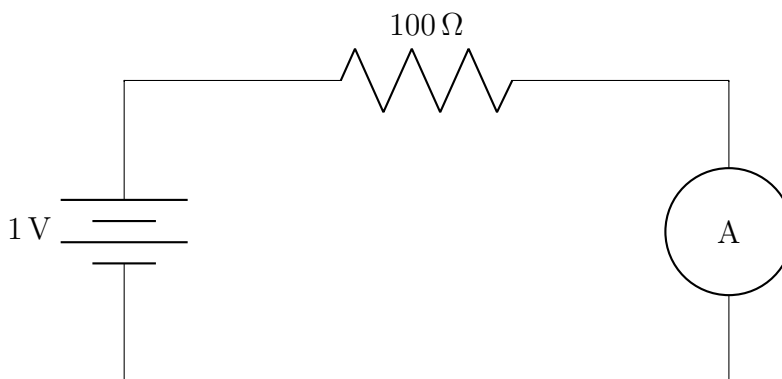

Figure 3: Circuit used to measure the internal resistance R_M of the ammeter
To determine the resistance of a DC ammeter, we will use the circuit shown in Figure 3. According to Ohm's Law, the current in this circuit is given by
3. Assemble the circuit shown in Figure 3. Set the multimeter to the ammeter mode for DC current measurement. Recall that you need to place the test leads in the correct banana jacks on the front panel and to press the proper sequence of softkeys (Hint: you may have to use `Shift`).
6. Determine the value of R_M from Equation (4).